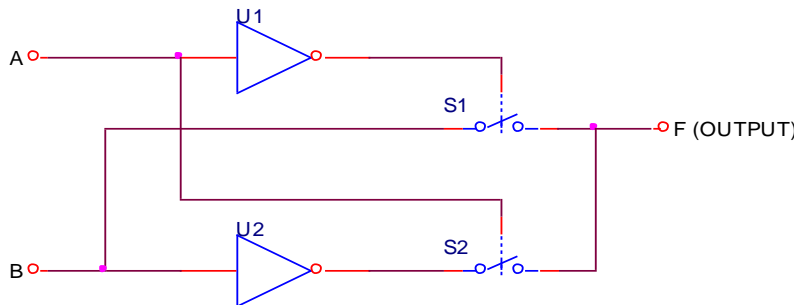

Figure E4.10b
As a final exercise, construct the circuit shown in Fig. E4.10b below, using the CD4016B to implement the two analog switches and an additional CD4007 to implement the two CMOS inverter gates. It is up to you to devise the correct circuit connections. Be sure to add a 0.1 μF power supply decoupling capacitor across each of the two IC's. Measure and record the truth table for this circuit, listing an output state of {0, 1, HiZ} for the output F.
- Draw a complete circuit schematic, detailing each MOSFET explicitly, that produces a 2-input data multiplexer. Look carefully at the structure of the circuit of Fig. E4.10b for a hint on how to do this.
- The circuit of Fig. E4.10b implements an exclusive OR (XOR) function using a total of 12 MOSFET's. Draw a complete circuit schematic, detailing each MOSFET explicitly, that produces the same function using only 8 MOSFET's. (Hint: remove the redundancy in the transmission gate drive inverters.)